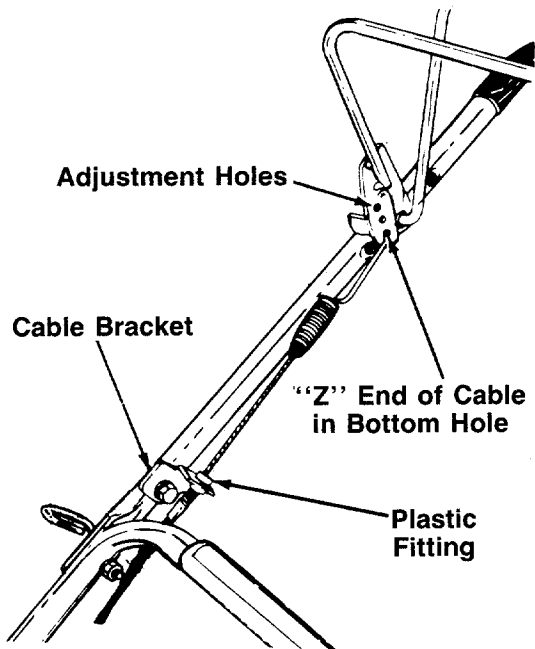

FIGURE 7.
1. The drive clutch control cable is attached to the drive cover, and has a spring on one end. Route the clutch cable inside the handle mount bracket and under the lower handle. Hook the spring on the end of the cable into the bottom hole on the drive clutch control handle. See figure 7.